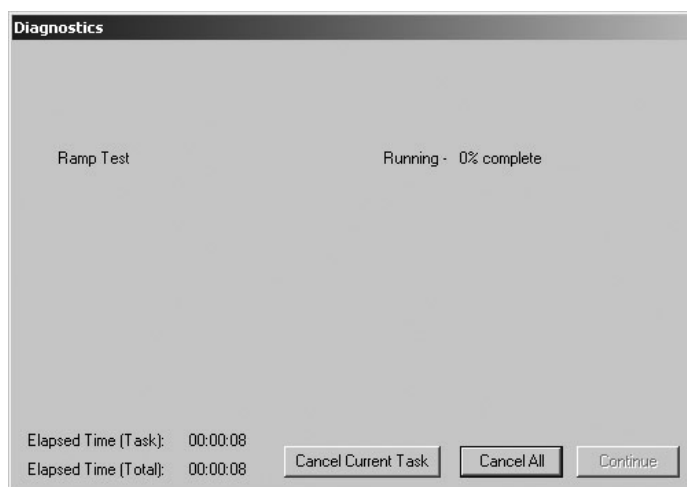

Figure 125 Ramp Test Running
3. Click **Perform Diag**. Figure 125 appears.